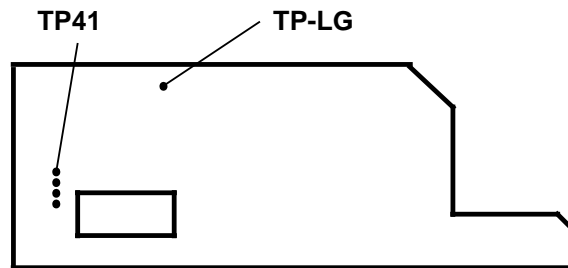

Figure 1.
2. Disconnect power cord from terminal. Remove LH cover. Reconnect power cord to terminal. Remove black plastic fastener in upper left corner of EME shield. Pull EME shield away from CNC A0 PWB. Connect jumper from TP-LG to TP41 on CNC A0 PWB (Figure 1). Both LEDs of power supply come on.